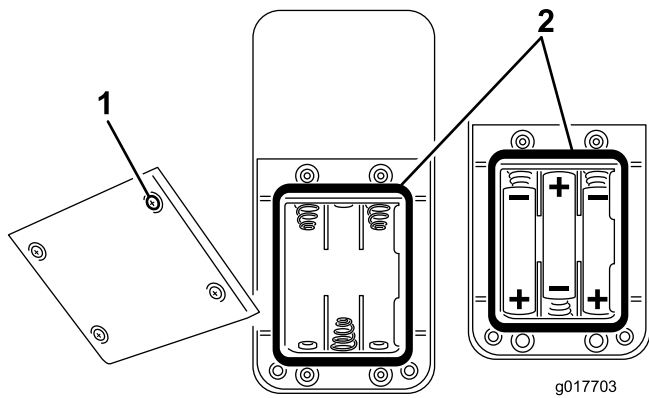

Figure 34
2. If installing batteries in an empty battery compartment, install three fresh size AAA batteries. Be sure to position the batteries as shown in Figure 34.
3. If replacing expired batteries, remove the old batteries and install three fresh size AAA batteries. Be sure to position the batteries as shown in Figure 34.